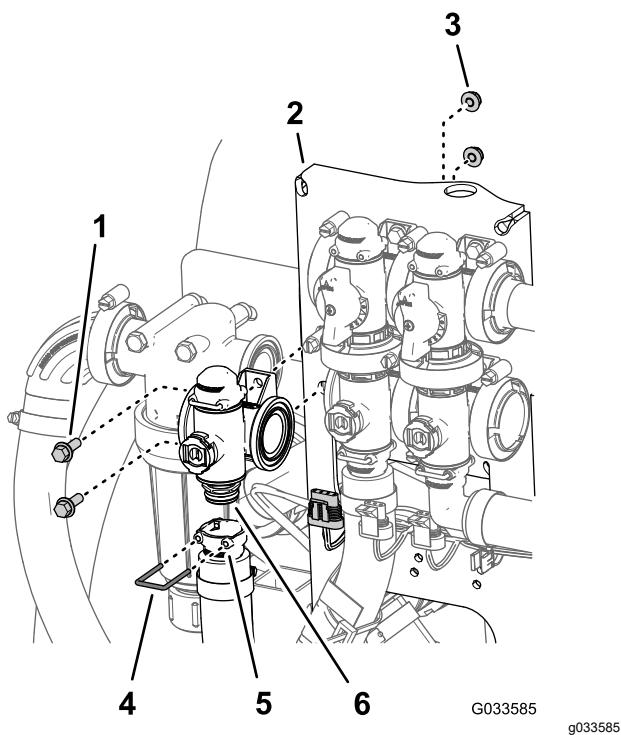

Figure 114
2. Remove the retainer that secures the outlet fitting to the manifold coupling for the rate control valve (Figure 114).
3. Remove the 2 flange-head bolts (1/4 x 3/4 inch) and 2 flange locknuts (1/4 inch) that secure the rate control valve to the valve mount and remove the valve manifold from the machine (Figure 114).